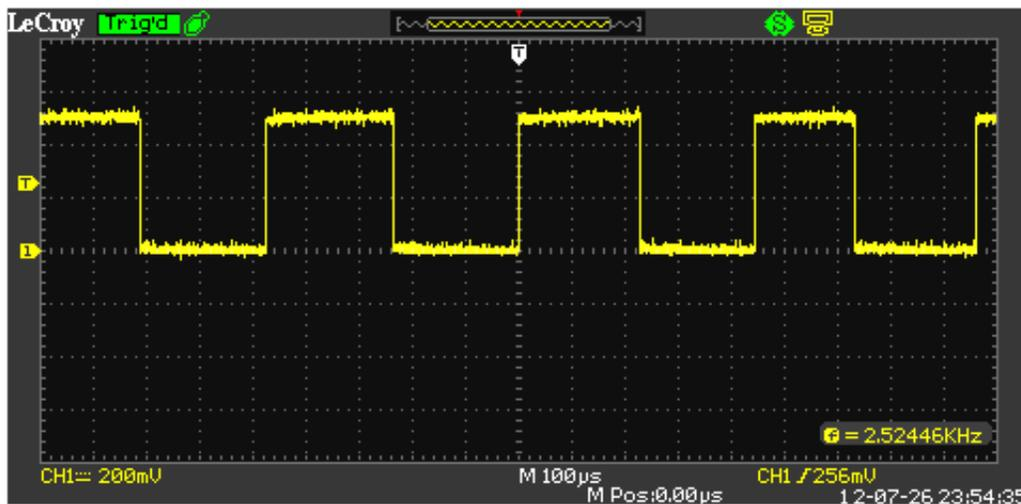
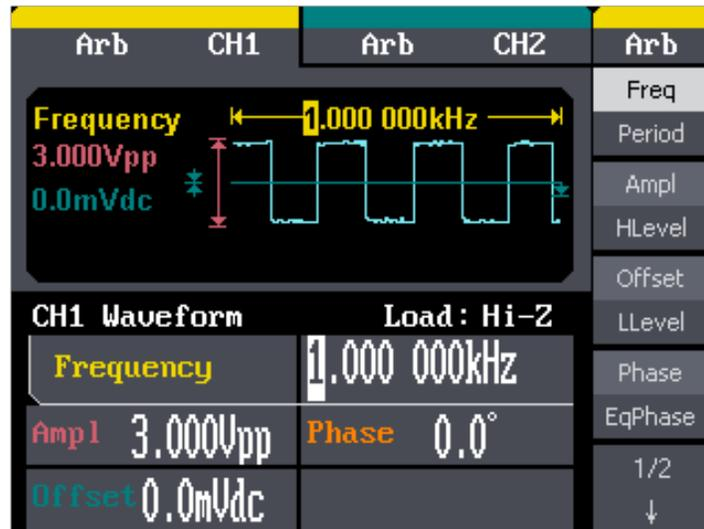

Figure 3: A screen capture of the WaveAce oscilloscope shows the acquired signal from the WaveSource 100 evaluation source
Figure 8: This screen capture from the WaveStation shows the imported waveform from the WaveAce oscilloscope as seen in Figures 3 and 6
2. For this demonstration, a WaveAce 2034 oscilloscope and LeCroy's WaveSource 100 oscilloscope evaluation signal source were used to generate and acquire a pulsed signal as shown in Figure 3. Of course, any signal of interest may be acquired. A WaveStation 2052 served as the waveform generator.
9. The signal from the WaveAce oscilloscope is now loaded into the WaveStation as shown in Figure 8. Compare this image with Figures 3 and 6.